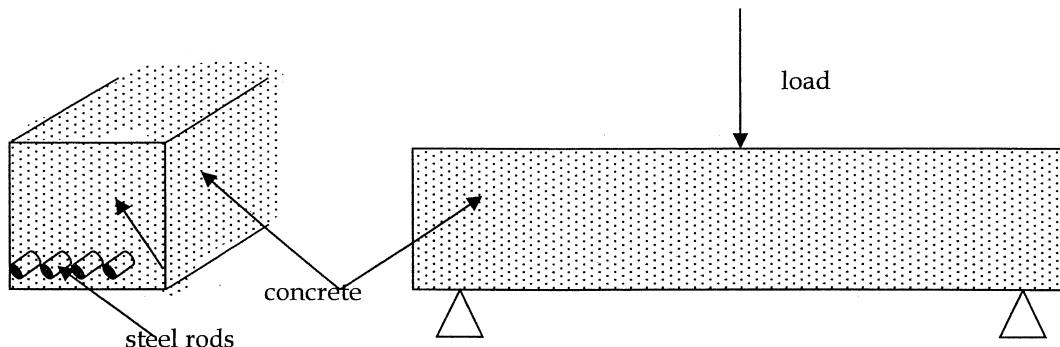

Figure 4(a)
- (a) Figure 4(a) shows a cross section through a reinforced concrete beam. Beam is supported at its ends and vertically loaded in the middle. Concrete beam is made out of a mixture of cement, sand, broken stone in proportions of 1:2:4, together with water. From the properties of concrete and steel;